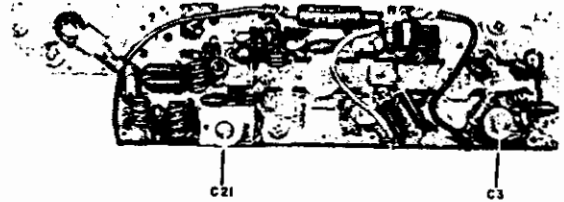

Fig. 6-1b
7. Key the transmitter, tune C3 (on the RF power amplifier, Fig. 6-1b), C42 (on the exciter), and C7 (on the PA) again for maximum power output.